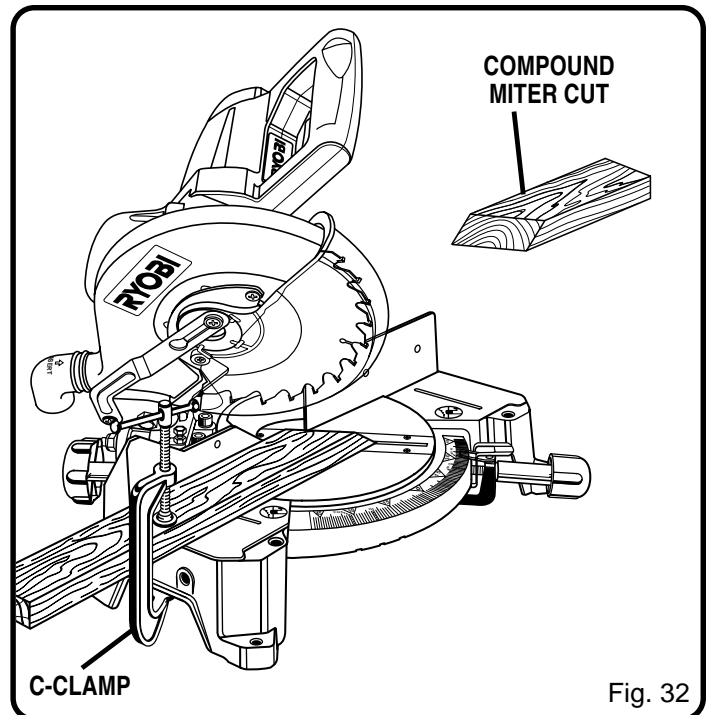

Fig. 32
- Grasp the stock firmly with one hand and secure it against the fence. Use the optional work clamp or a C-clamp to secure the workpiece when possible. *See Figure 32.*
- Slowly lower the blade into and through the workpiece. *See Figures 32 and 33.*